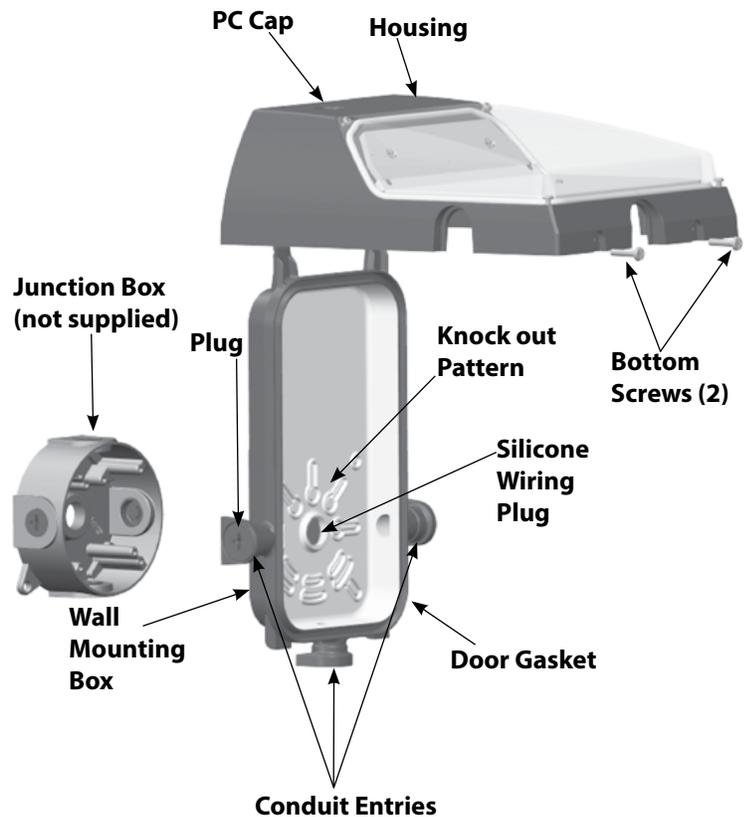

Fig. 1
1. For photocell use, remove **PC Cap** (shown in Fig. 1).